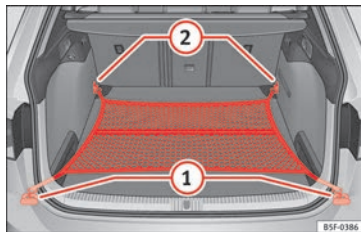

Fig. 134 In the luggage compartment: net bag hooked up at floor level (LEON ST model).
- As applicable, lift the front fastening rings » **Fig. 134** ②.
- Secure the net hooks to the fastening rings ② » ⚠. The bag zip should be facing upwards.
- Secure the net hooks to the fastening rings ①.